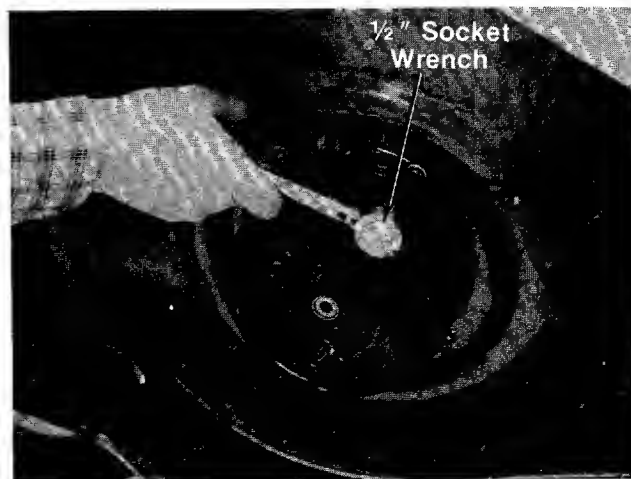

FIGURE 20.
11. Support the engine with one hand. Remove the three self-tapping screws which secure the deck and blade brake/clutch to the engine. A 1/2" socket wrench is required. See figure 20.